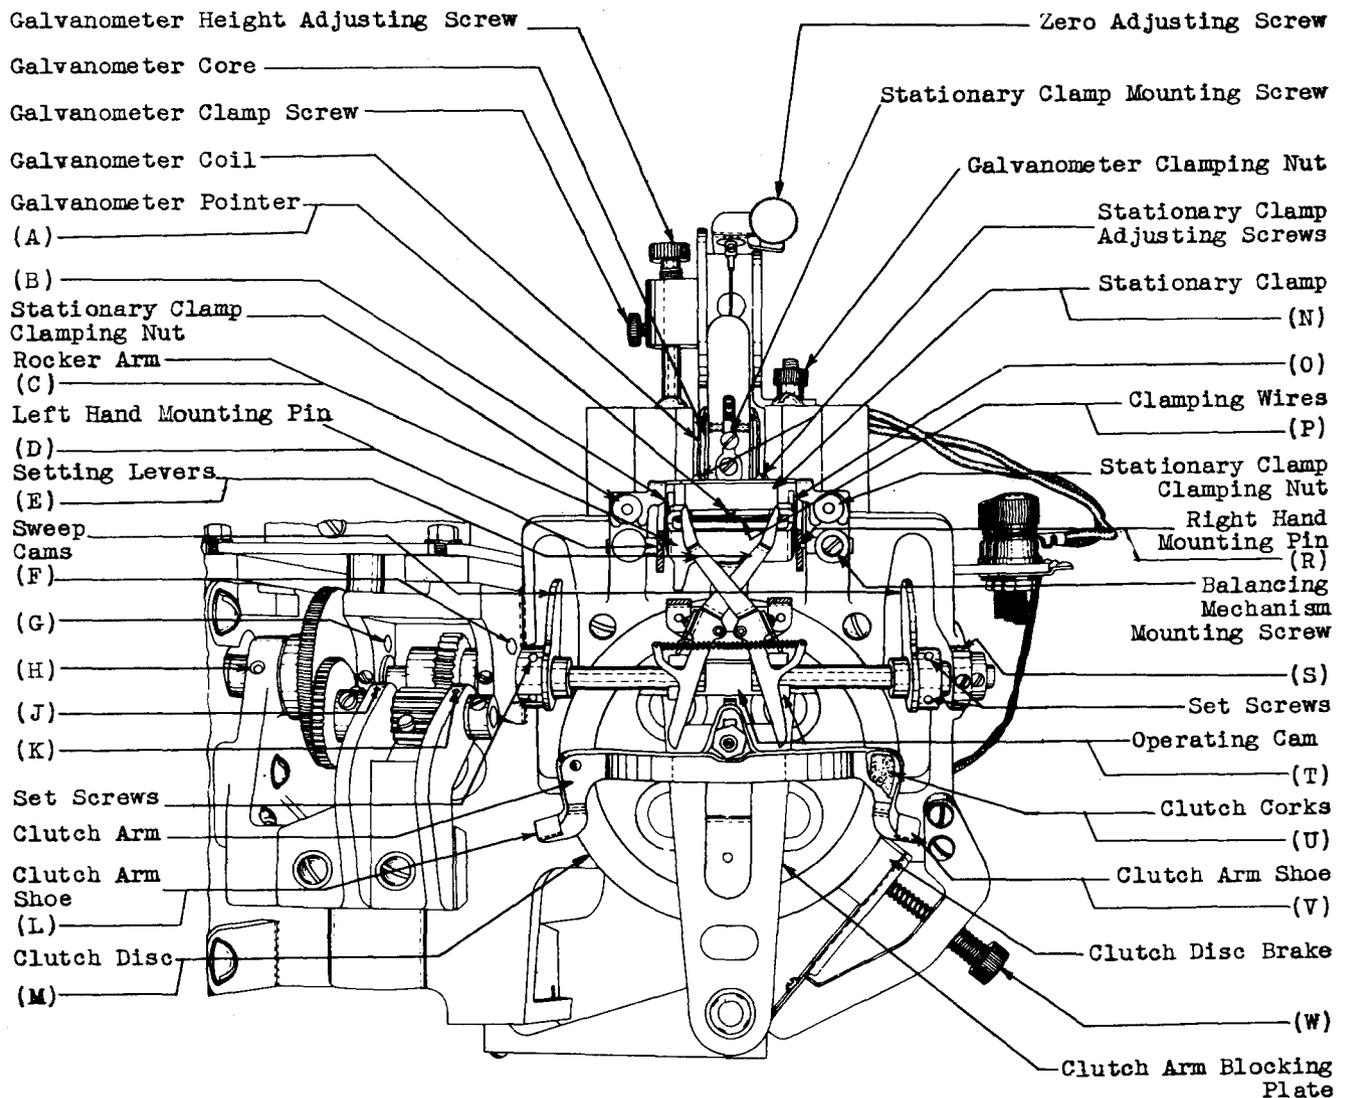
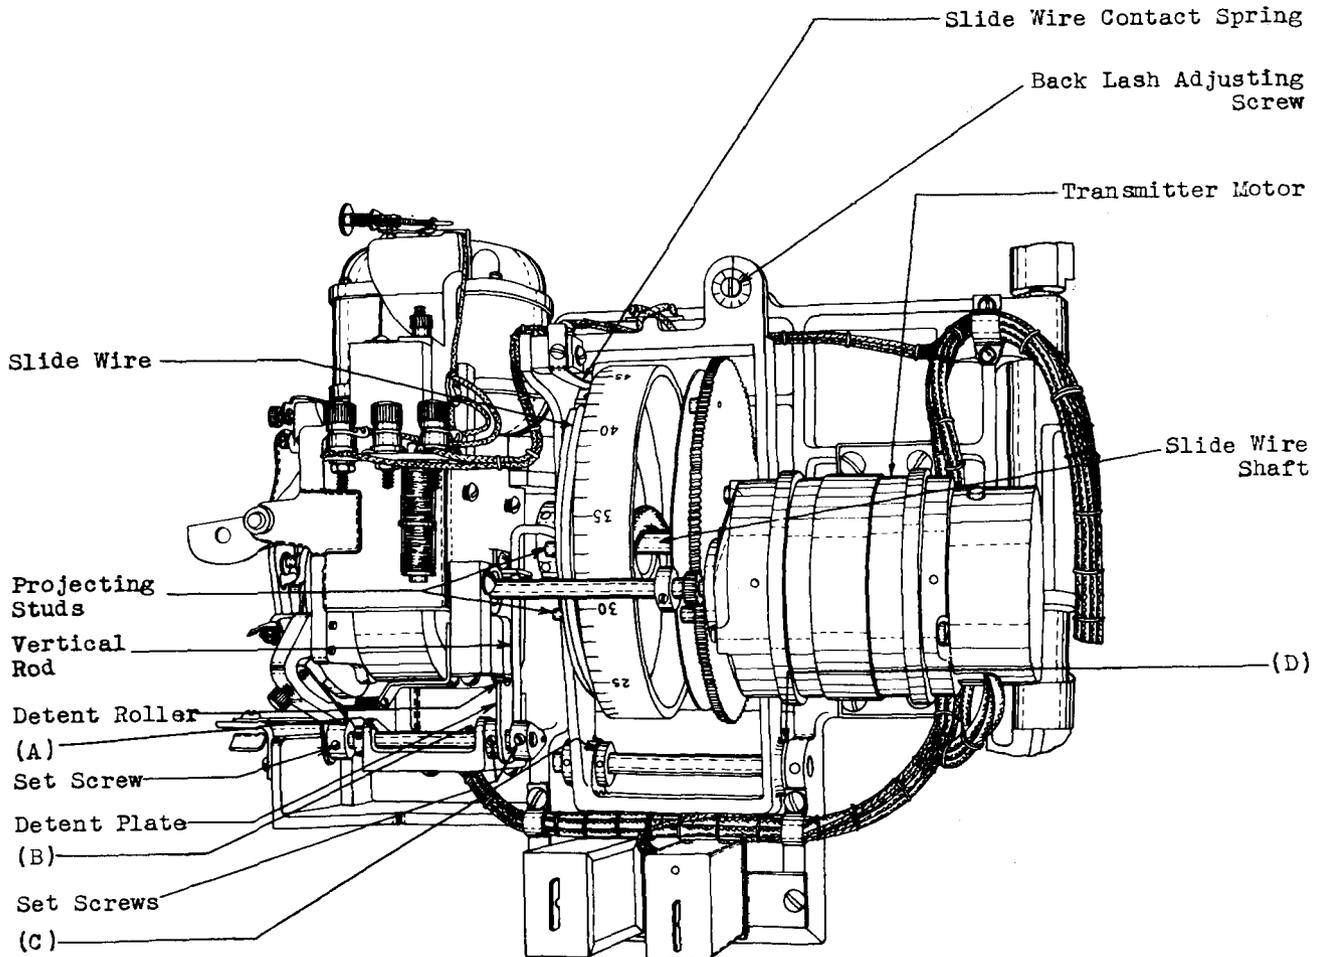
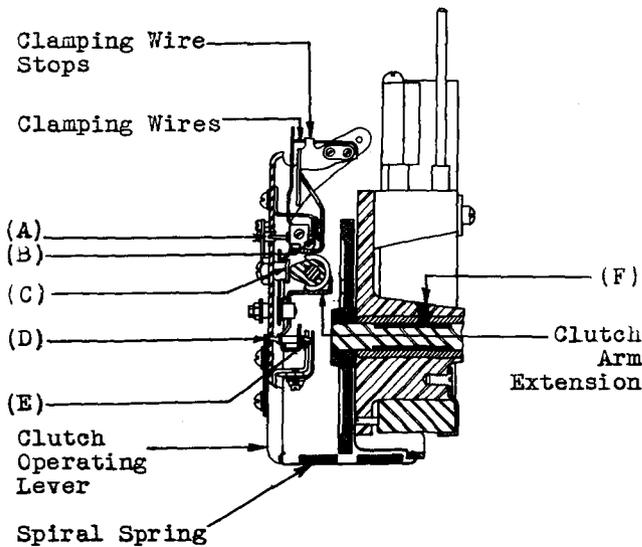
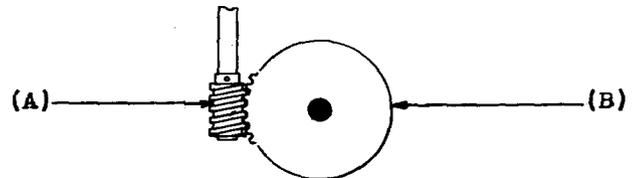

Fig. 1 - Controller Mechanism
Fig. 2 - Controller Mechanism
Fig. 3 - Cross Section of Balancing Mechanism and Clutch
Fig. 7 - Driving Worm and Gear
- (1) Clutch disc Fig. 1 (M).
- (2) Clutch corks Fig. 1 (U).
- (3) Galvanometer pointer Fig. 1 (A).
- (4) Stationary clamp Fig. 1 (N).
- (5) Clamping wires Fig. 1 (P).
- (6) Setting levers Fig. 1 (E).
- (7) Shaft bearings Fig. 1 (F),(G),(H),(J),(K),(S) Fig. 2 (A),(B),(C),(D).
- (8) Bearings for shaft on which slide wire and dial are mounted.
- (9) Worm gear Fig. 7.
- (10) Clutch arm shoes Fig.1(L) and (V).
- (11) Relay contacts shall be cleaned in accordance with the section covering the cleaning of relay contacts and parts.
- (1) Operating cam Fig. 1 (T).
- (2) Slide wire Fig. 2.
- (3) Balancing mechanism Fig. 3.
- (1) Shaft bearings, Fig. 1 (F),(G),(H),(J),(K),(S).
- (2) Bearings for shaft on which slide wire and dial are mounted.
- (3) Shaft bearings Fig.2 (A),(B),(C),(D).
- (4) Shaft bearing Fig. 3 (F).
- (5) Socket and pivot bearings Fig. 1 (B),(D),(O),(R).
- (6) Socket and pivot bearings Fig. 3 (A),(B),(D),(E).
- (7) Reduction gears Fig. 1 and 7.
- (8) Dial drive gears Fig. 2.
- (9) Clutch arm shoes Fig.1 (L) and (V).
- (10) Fibre contact buttons Fig.3 (C).
- (11) Operating cam Fig. 1 (T).
(a) Clamping Wires: Fig. 1 and Fig. 3 - The clamping wires shall be straight and parallel to each other. Gauge by eye.
\* (b) Clamping Wire Pressure: Fig.3 - The pressure of each clamping wire on the clamping wire stops shall be:
†(a) Coil Position: The galvanometer coil Fig. 1 shall be centrally located vertically and horizontally with respect to the galvanometer core, its front edge shall be approximately flush with the front face of the core, and it shall swing freely in both directions. Gauge by eye.
†(g) Galvanometer Clamping Nut: Fig. 1 - The galvanometer clamping nut shall be turned down until it just touches the lug but shall not be tightened. Gauge by feel and eye.
†(h) Pointer - Fig. 1(A)